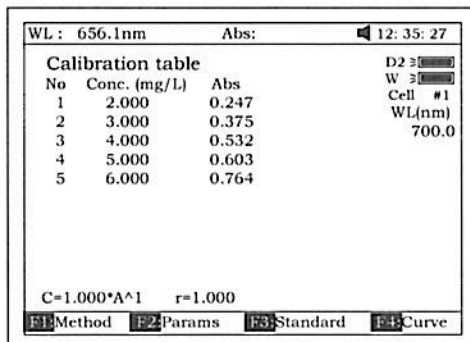

Fig 33
- 3.3.3** Pull the first sample cuvette of known concentration into the light path, Press the key **[START]** to get values of standard curve one by one (Fig 33).
In Fig 33 press **【Load】** and then press **【^】** or **【v】** to select the file with type **\*\*\*.fit**. At last press **【ENTER】** TO confirm.